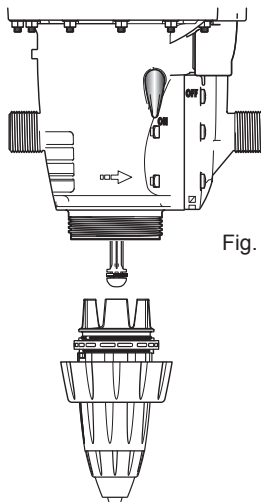

Fig. 7
- Remove the injection assembly and let the water flow out (**Fig. 7**).